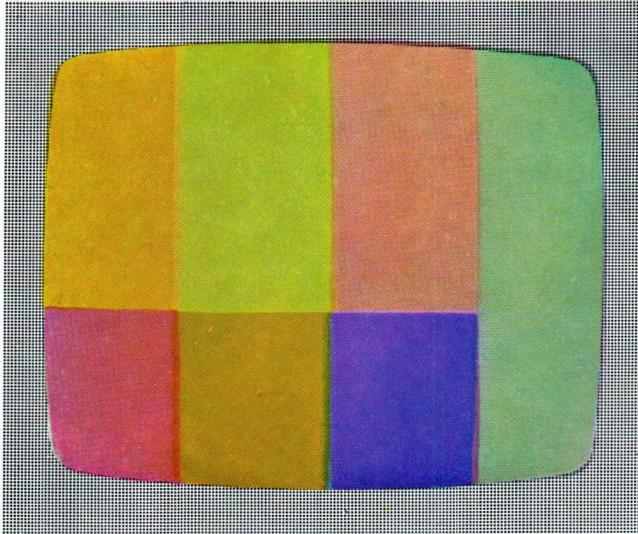

Fig. VII-22. Incorrect subcarrier phase to both demodulators (R-Y) and (B-Y)
6. ● In some receivers the subcarrier phase to both demodulators can be varied only simultaneously. In that case first adjust, for example, the (R-Y) demodulator to obtain a correct adjustment for bar 2 and then the (B-Y) demodulator for correct quadrature by observing bar 3, or vice versa. Since there may be considerable interaction between these adjustments, they often have to be repeated several times, see Fig. VII-22.